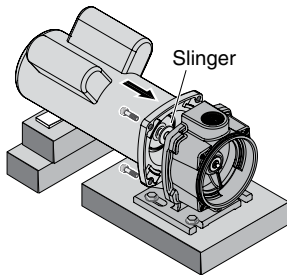

Figure 8
1. Bolt the bracket down to the foundation (see Figure 8).